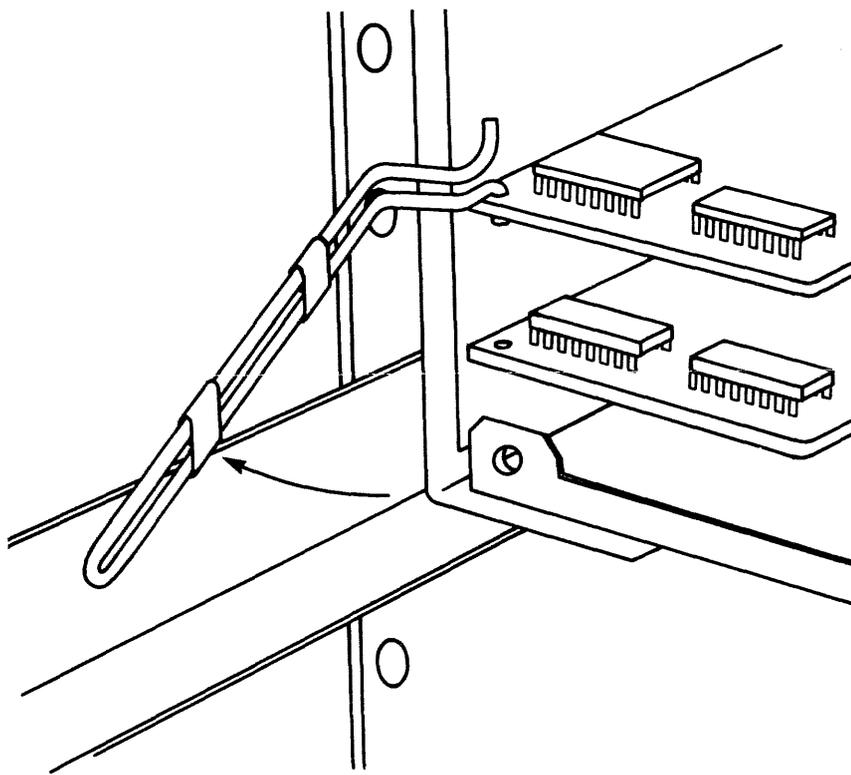

Figure 2-13 PCA Removal
- c) Refer to Figure 2-13. Insert the extractor tool in the hole on the left of the PC board and push the extractor tool to the left. This disconnects the PCA connector from the I/O Bus. The PCA can then be slid out of the unit by gently pulling the extractor tool on the left and the 50-pin connector on the right.